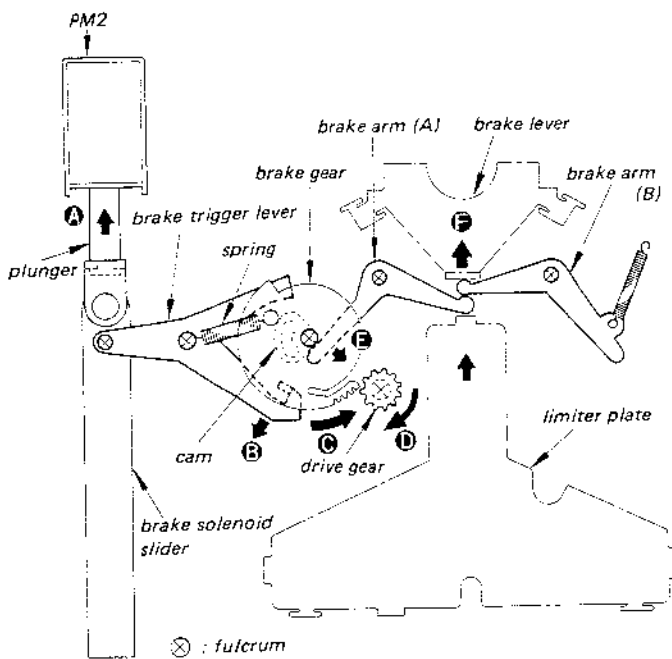

Fig. 1-1
Brake Release during fast forward mode and rewind mode. See Fig. 1-1.
4. When the cam pushes the head arm (A) in the direction shown by the arrow **E**, the limiter plate moves in the direction shown by the arrow **F**. Thus, the head deck is lifted and the head contacts the tape.
5. Before the solenoid PM2 finishes attraction, due to the limiter-plate moving, the brake lever moves in the direction shown by the arrow **F** in Fig. 1-1 and the brake is kept released.